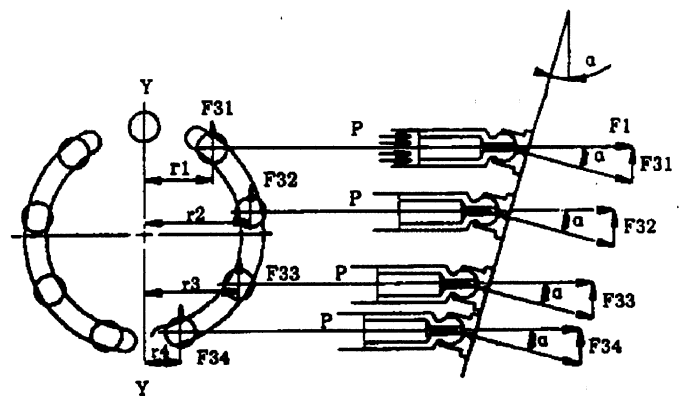

Fig. 4
The high pressure oil, as shown in Fig.4 acts on the pistons located within 180° across the line Y-Y that connects the piston's top dead point and the bottom dead point, and generates force $F1 = P \times A$ (P:pressure, A :piston's cross-sectional area).
This force $F1$ is separated into thrust component $F2$ and radial components $F31 \sim F34$ (or $F35$) by the action of swash plate (11) having an inclination angled of α . (Fig.4) These radial components act on the shaft Y-Y as a rotating force and build up the following torque: